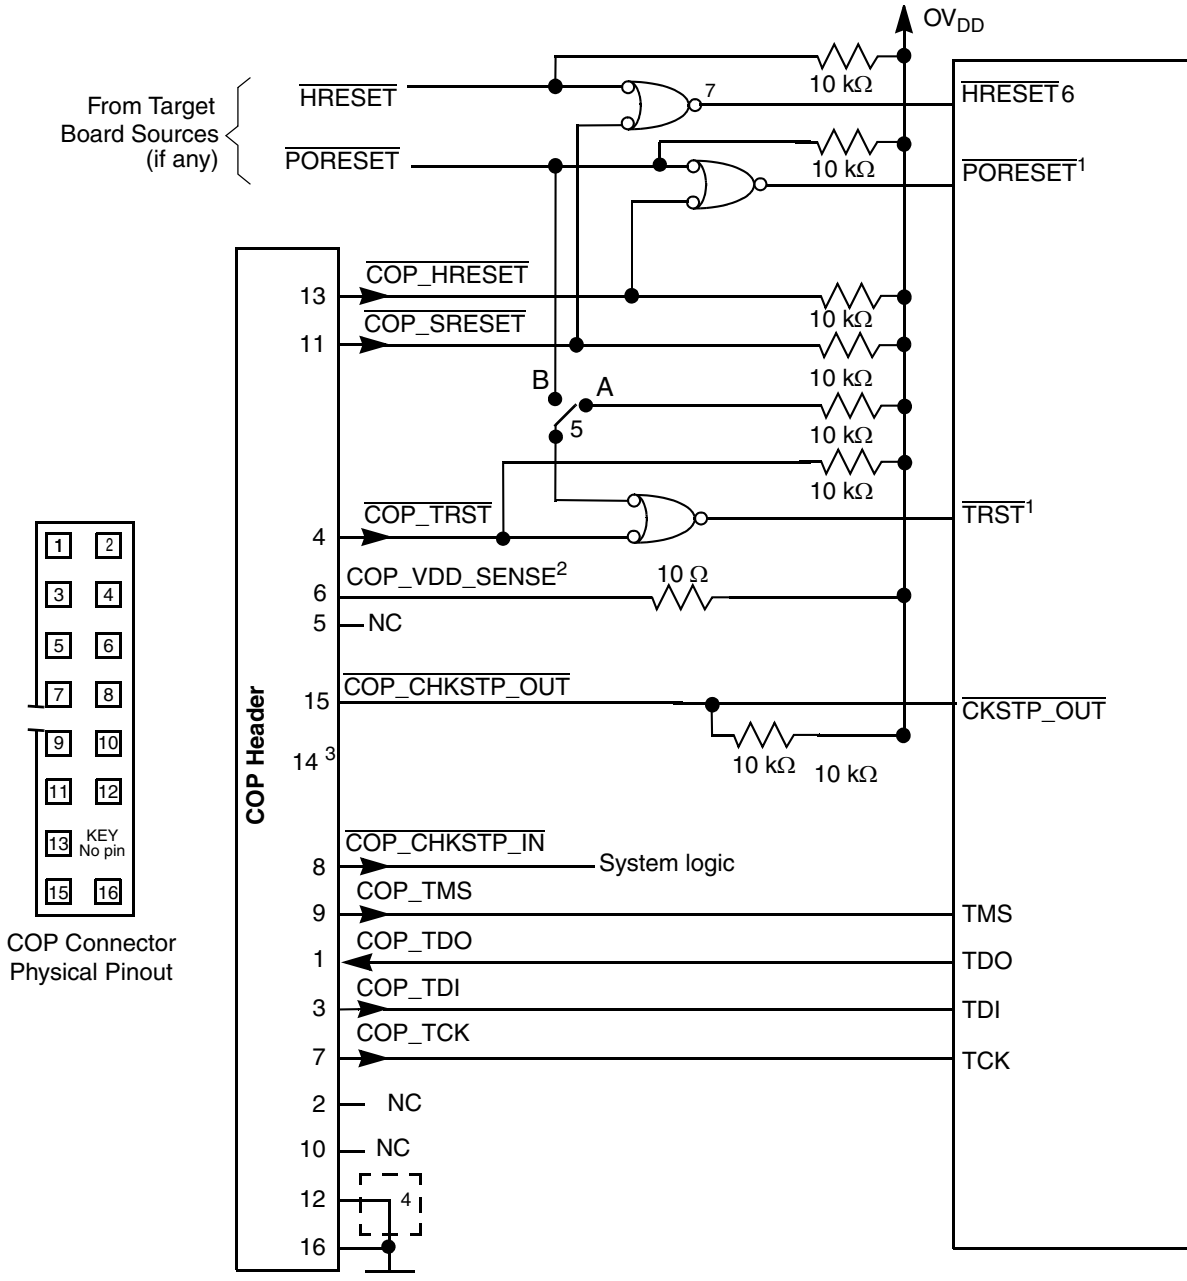

Figure 55. Legacy JTAG Interface Connection
Correct operation of the JTAG interface requires configuration of a group of system control pins as demonstrated in Figure 55. Care must be taken to ensure that these pins are maintained at a valid negated state under normal operating conditions as most have asynchronous behavior and spurious assertion will give unpredictable results.
The arrangement shown in Figure 55 allows the COP port to independently assert $\overline{PORESET}$ or \overline{TRST} , while ensuring that the target can drive $\overline{PORESET}$ as well.
- \overline{TRST} must be tied to $\overline{PORESET}$ through a 0 k Ω isolation resistor so that it is asserted when the system reset signal ($\overline{PORESET}$) is asserted, ensuring that the JTAG scan chain is initialized during the power-on reset flow. Freescale recommends that the COP header be designed into the system as shown in Figure 55. If this is not possible, the